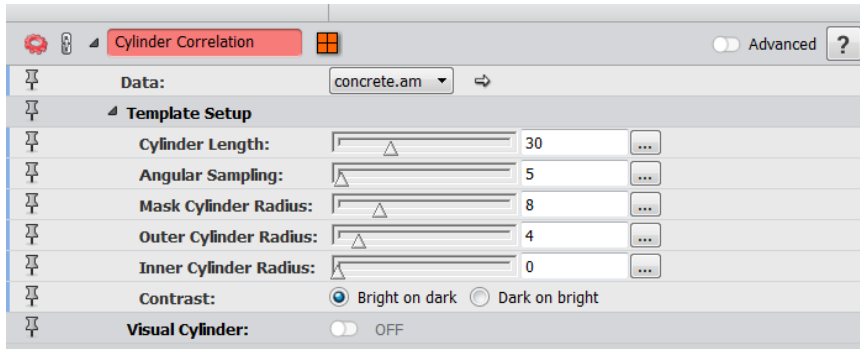

Figure 10.5: Default Parameter Settings of the *Cylinder Correlation* Module
3. Set the parameters as shown in Figure 10.5.